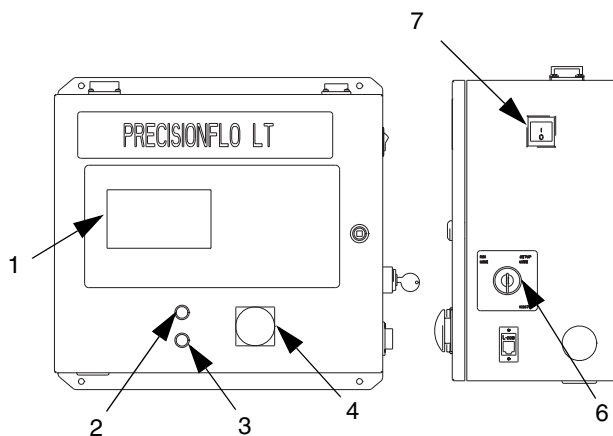

FIG. 15
2. Press the E-stop button (4). See FIG. 15.
4. Turn on the main electrical disconnect (7) to supply power to the PrecisionFlo LT module.
6. Disengage the E-stop button (4). See FIG. 15.